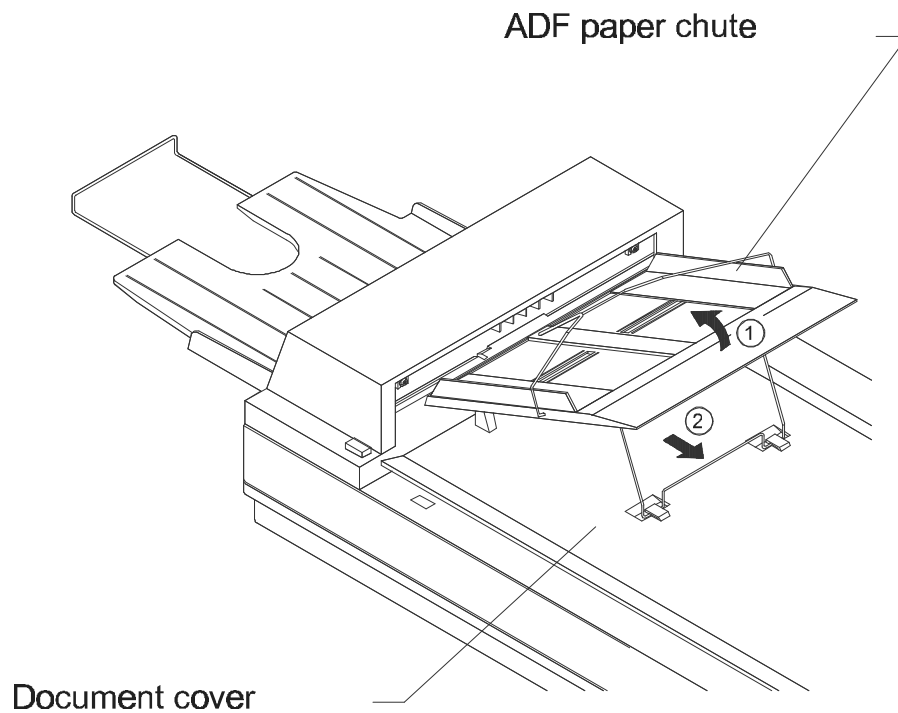

Figure 3-7 Setting the ADF paper chute
1. Raise the unattached end of the input paper chute to about 45 degrees, as shown in Figure 3.7.